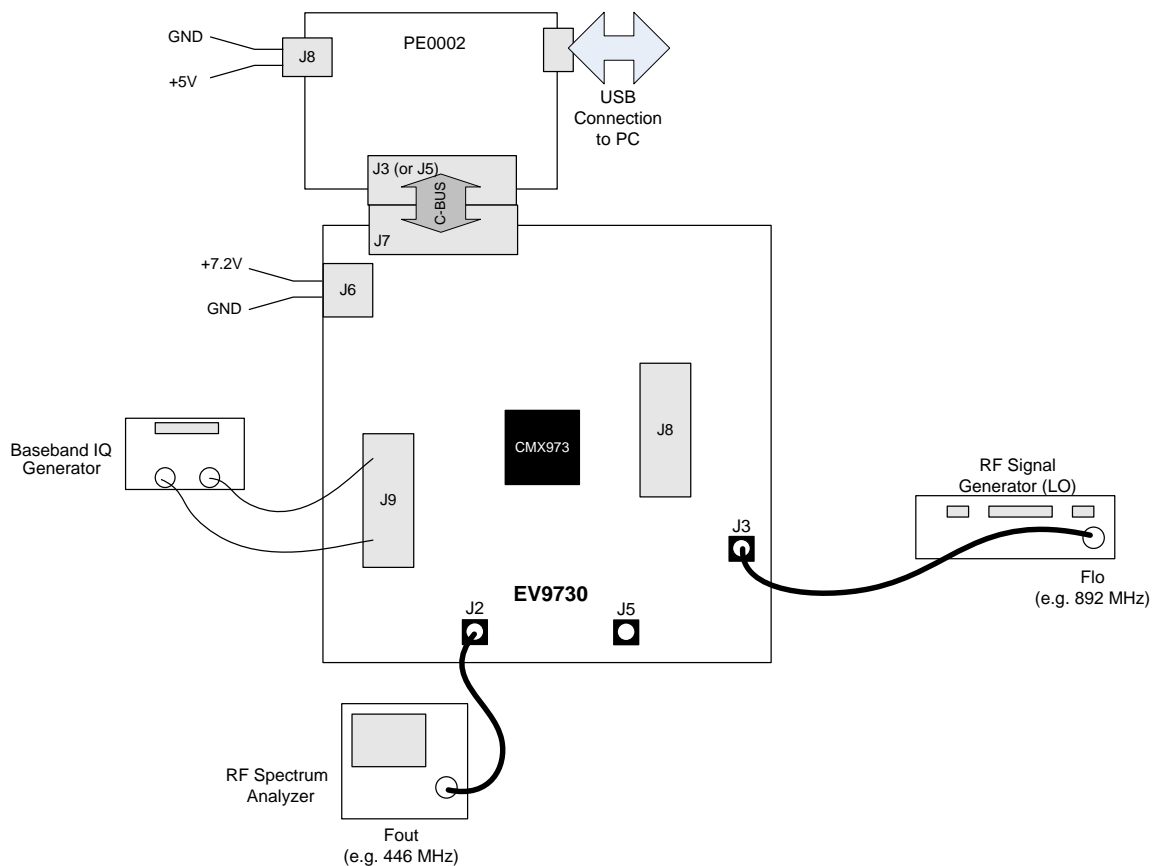

Figure 2 Typical Connections for EV9730 as a Quadrature Modulator
An example of typical connections to the EV9730 is shown in Figure 2. Perform the following steps in sequence:
1. Connect test leads as shown in Figure 2, except the power to J6.